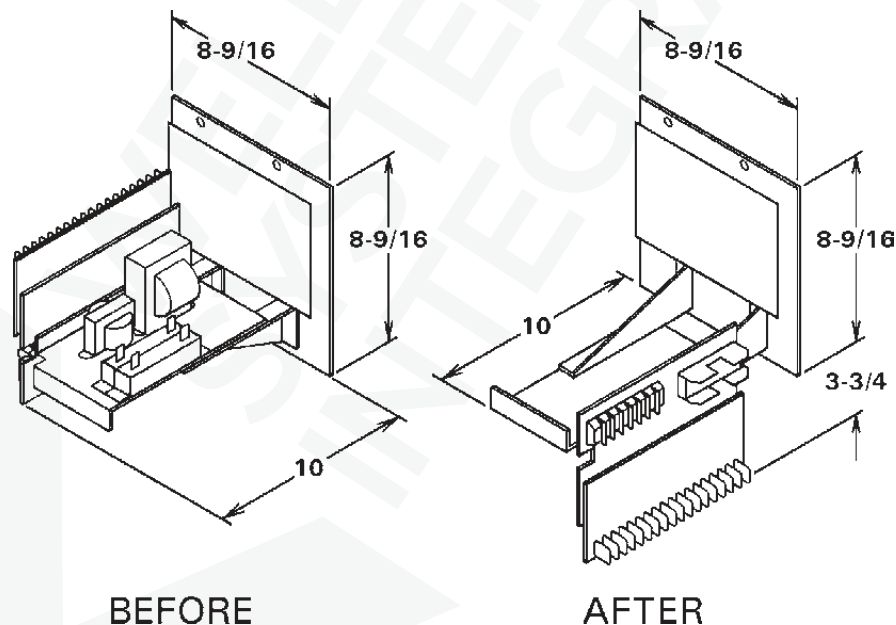

Figure H-1. IMU rotation option
The Integrated Modular Unit (IMU) series of Weld Controls are designed for use in retrofit situations or in new/custom designs. Customers are free to place one or more of these units in existing enclosures or new designs as requirements demand. **To make the IMU even more flexible, the rear chassis can be rotated 180°.** If the IMU as supplied cannot be oriented so that the Terminal Strip/Firing PCB, Voltage Programming Terminal Strip and fuse holder can be accessed directly, the chassis can be inverted (turned upside down) to provide access as shown in Figure H-1. Before installing the IMU in an enclosure, determine whether or not the chassis needs to be flipped. If rotation of the chassis is required, follow the instructions below.
3. Rotate the IMU chassis 180° on its long axis and remount the brackets to the studs on the Dial Plate (see Figure H-1).